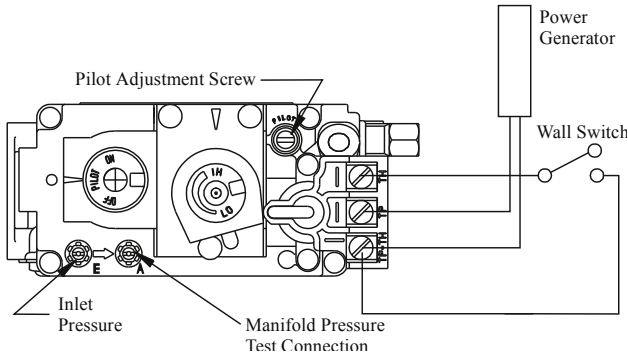

Figure 33. Sit Nova 820 gas valve.
1. Locate Pilot Adjustment Screw. (See figure 33.)
Pilot won't ignite	Disconnect remote wires and try to light pilot. If pilot now works, remote connections are faulty. Check wiring diagram figure 33.
Main burner will not light	1. Check wiring (see figure 33). 2. Check wall switch for proper connection.